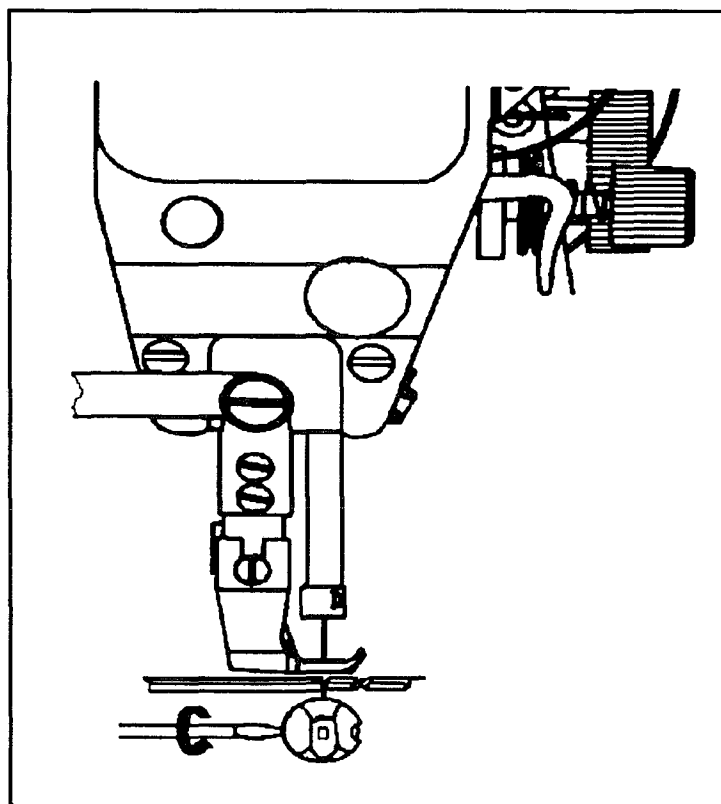

Fig. 16
1) In case needle thread tension is too strong or bobbin thread tension is too weak, as shown in Fig 15 (b), turn the thumb nut counterclockwise to decrease the needle thread tension, or tighten the tension spring regulating screw of bobbin case to increase the bobbin thread tension (See Fig.16)